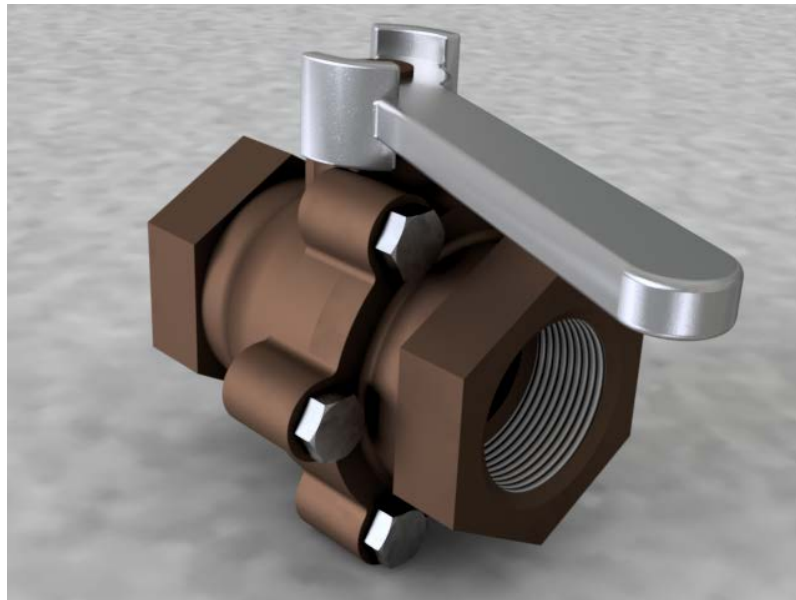

Figure 1: Rendered view of the ball valve
1. Create a rendered image of the ball valve assembly. Figure 1 gives an example.